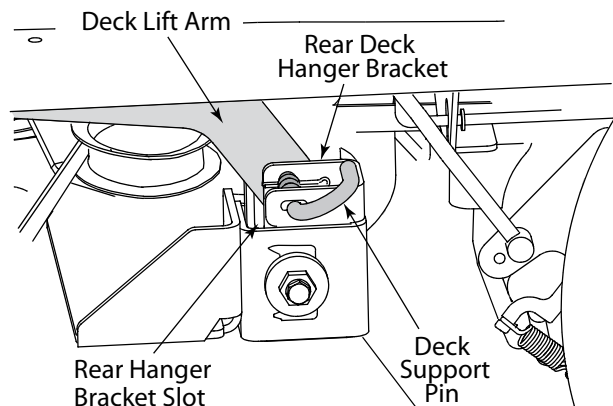

Figure 7-4
- Locate the LH and RH deck support pins on each side of the deck. Pull the deck support pins outward and lock in the disengaged position to release the deck from the tractor's LH and RH deck lift arms. Refer to Figure 7-4.
- Raise the deck lift arms out of the rear hanger bracket slots by raising the deck lift handle on the tractor to its highest position. Refer to Figure 7-4.
- Maneuver the deck so that the slots in the two rear deck hanger brackets approximately align with the deck lift arms of the tractor. Refer to Figure 7-4.
- Pull the deck support pins outward and maneuver the deck as necessary to align the holes in the deck lift arm with the pins. Refer to Figure 7-4.